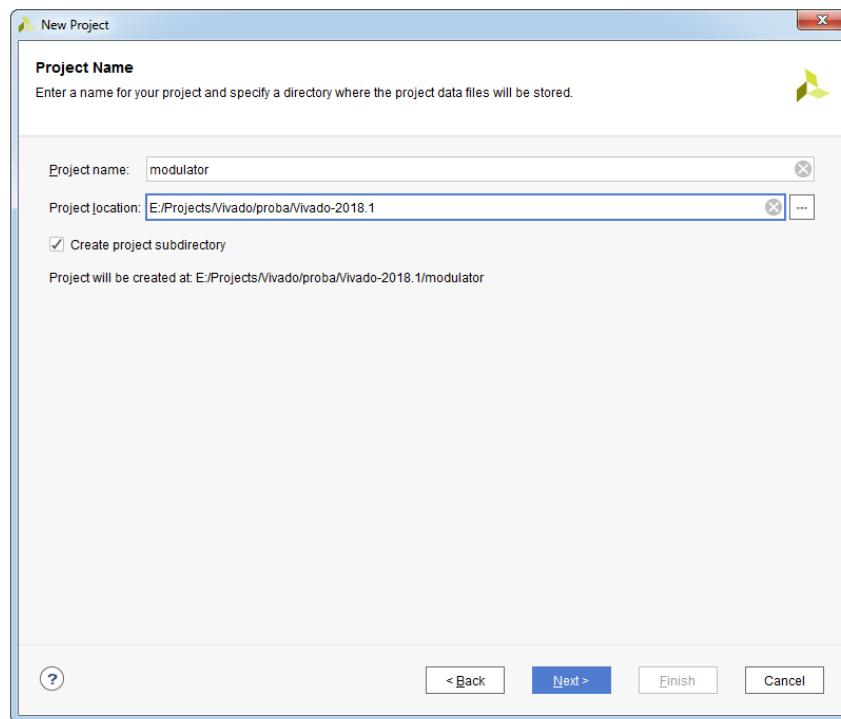

Figure 2.4: Project Name dialog box
- Leave **Create project subdirectory** option enabled, see Figure 2.4
When Vivado creates new project, it also creates a directory with the name and at the location that we specified in the GUI (see Figure 2.4). That means that the all project data will be stored in the `project_name (modulator)` directory containing the following: